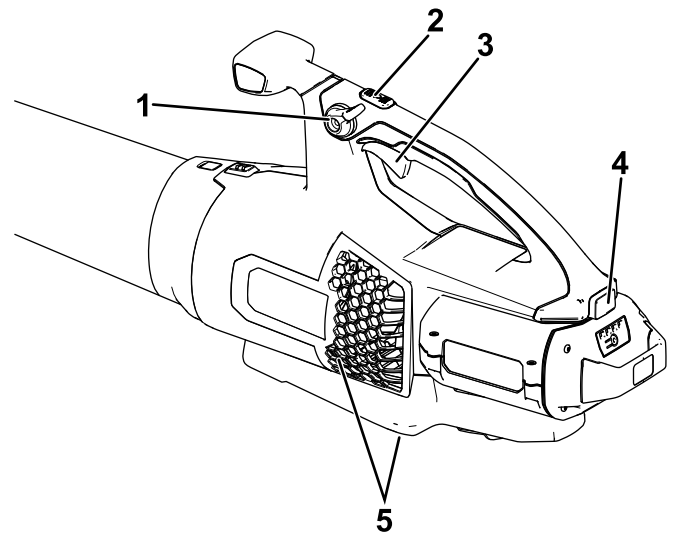

Figure 8
4. To start the blower, squeeze the variable-speed trigger (Figure 8).
Note: Engage the speed lock to keep the machine on without pressing the variable-speed trigger (Figure 8).
To achieve maximum performance (air speed), fully depress the variable-speed trigger, then press and hold the turbo boost button for the desired amount of time (Figure 8).
To adjust the air speed as you blow, use the variable-speed trigger (Figure 8).
To maintain the current air speed, engage the speed lock (Figure 8).
To shut off the blower, disengage the speed lock (if in use) and release the variable-speed trigger (Figure 8).